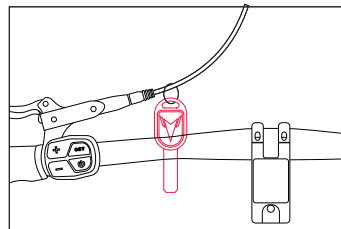

Figure 3
**Step 1:** Find the keys located on the handlebar (fig. 3) and remove them. If you cut them from the handlebars, be careful not to damage any of the wires.